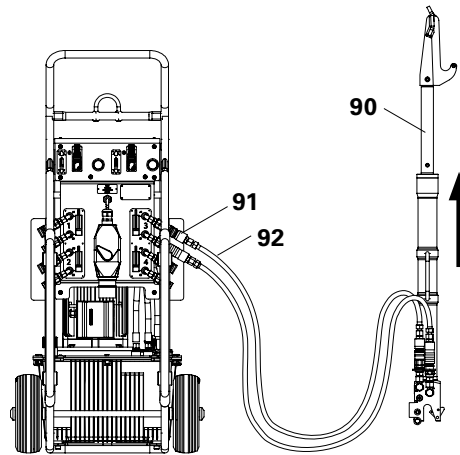

Fig. D5.11a
1. Attach hydraulic twin hose (92) on the hydraulic pump side.
2. Connect the pair of couplings to the climbing device (90) at the other end.
4. Completely extend the cylinder to displace the air pockets on the rod side. (Fig. D5.11a)